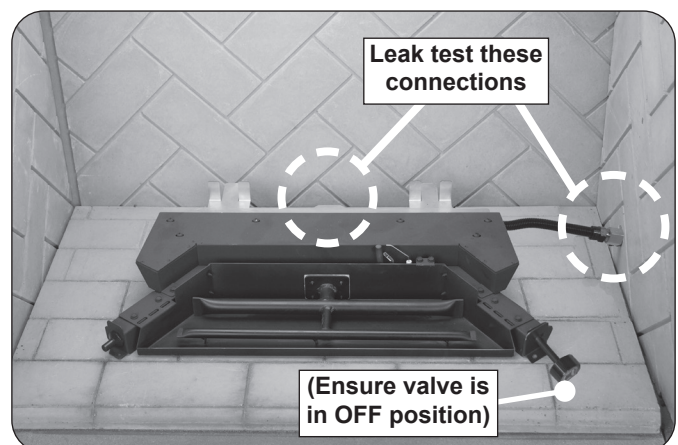

Fig. 14-4 Perform leak test
5. **LEAK TEST:** Make sure the burner valve is in the OFF position. Turn on the fireplace gas supply, and test at all connections for leaks using the appropriate soapy water solution. See Fig. 14-4. If bubbles appear, a leak is present. Turn off the gas and tighten at all connections. Repeat until no leaks are present. If a leak persists, turn off the gas supply and contact the local gas company or dealer. **NEVER USE A FLAME TO CHECK FOR LEAKS.**